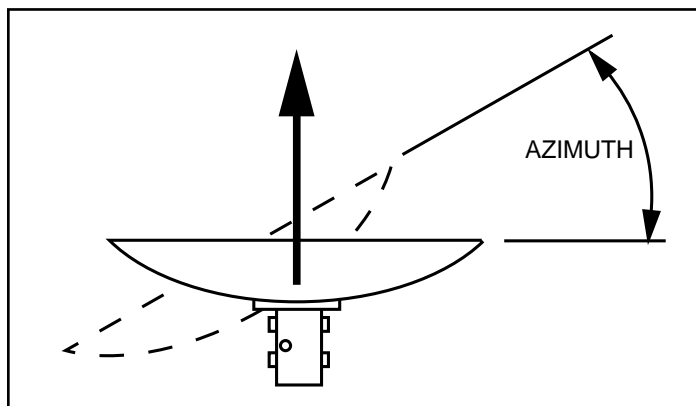

FIG. 2.1 - ROTATING ANTENNA FOR AZIMUTH
- 2 - Azimuth, refer to Figure 2.1.
- 1 - Loosen the top and bottom azimuth locking bolts (15) 1/8 turn. Minimum loosening will allow azimuth rotation on pole without tilting.
- 2 - Obtain azimuth for your satellite from Charts. Rotate the antenna and AZ/EL cap, pointing it to the correct compass reading for your location and satellite. Refer to Figure 2.1. Slowly sweep the antenna in azimuth until a signal is found, if desired signal is not found, increase or decrease elevation setting and repeat the azimuth sweep.
- 3 - Final Lock Down: Tighten progressively (1/8 turn each) all four azimuth locking bolts (15). Repeat until 85-95 ft-lbs torque is reached.